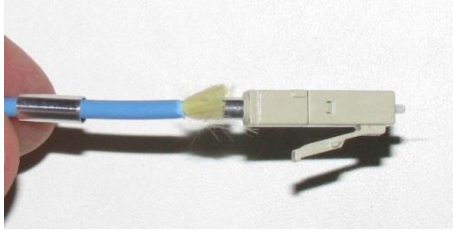

Figure 13
- 4.4. When assembling the cable take care that the complete Kevlar strain relief members cover the crimp connection (figure 13).